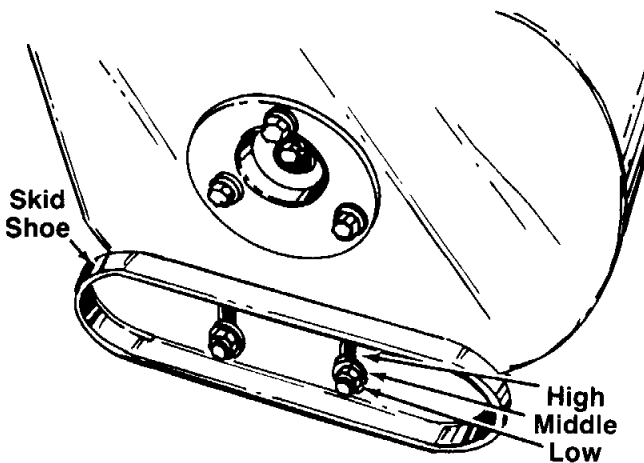

FIGURE 19.—Models 31353 and 31383 Shown
25. The space between the shave plate and the ground can be adjusted. For close snow removal, place skid shoes in the low position. Use middle or high position when area to be cleared is uneven. See figure 19.